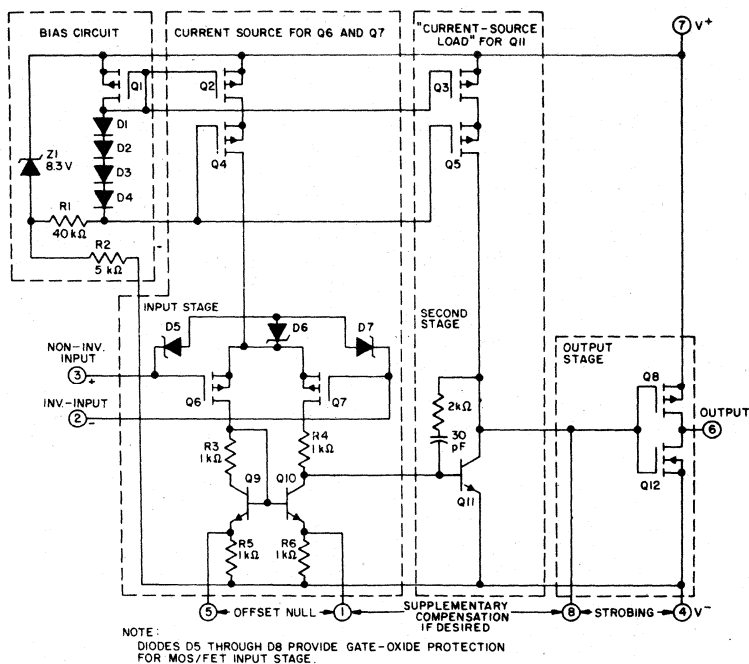

Fig.2 - Schematic diagram of the CA3160 Series.
**Input Stages** — The circuit of the CA3160 is shown in Fig.2. It consists of a differential-input stage using PMOS field-effect transistors (Q6, Q7) working into a mirror-pair of bipolar transistors (Q9, Q10) functioning as load resistors together with resistors R3 through R6. The mirror-pair transistors also function as a differential-to-single-ended converter to provide base drive to the second-stage bipolar transistor (Q11). Offset nulling, when desired, can be effected by connecting a 100,000-ohm potentiometer across Terms. 1 and 5 and the potentiometer slider arm to Term. 4. Cascode-connected PMOS transistors Q2, Q4, are the constant-current source for the input stage. The biasing circuit for the constant-current source is subsequently described. The small diodes D5 through D7 provide gate-oxide protection against high-voltage transients, e.g., including static electricity during handling for Q6 and Q7.